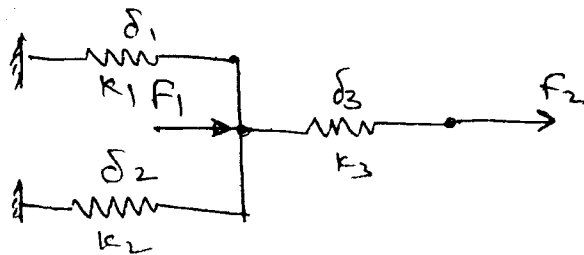

Fig. Q2(c)
- c. Determine the displacement at nodes of spring system shown Fig. Q2(c) using principle of minimum potential energy, (05 Marks)
- c. A two element two noded bar is shown in Fig.Q2(c). Determine the nodal displacements and the nodal forces. (10 Marks)